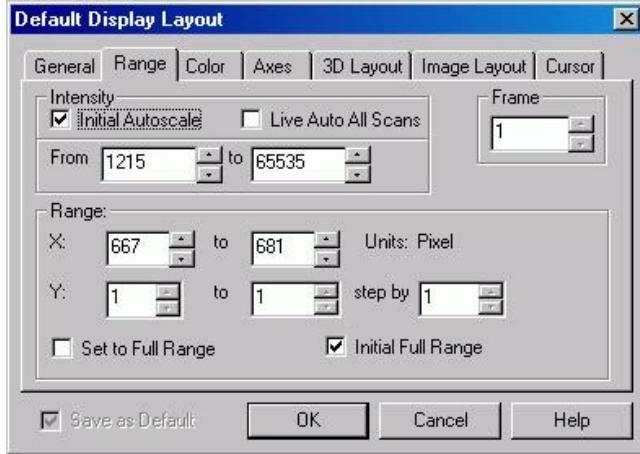

Figure 101. Range tab page
2. Click on the Range tab to move the Range tab page (Figure 101) to the front. **Initial Autoscale** and **Set to Full Range** should be selected. The Frame number should be “1.”